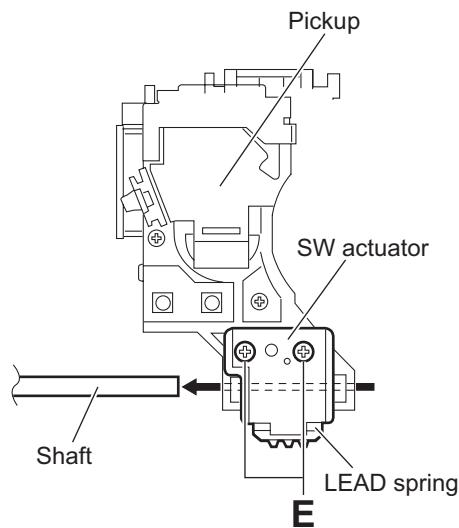

Fig.9
- From the bottom side of the pickup, remove the two screws **E** attaching the SW actuator and LEAD spring. (See Fig.9.)
- Pull the shaft out of the pickup. (See Fig.9.)
- (1) Attach the shaft, SW actuator and LEAD spring to the pickup up. (See Fig.9.)